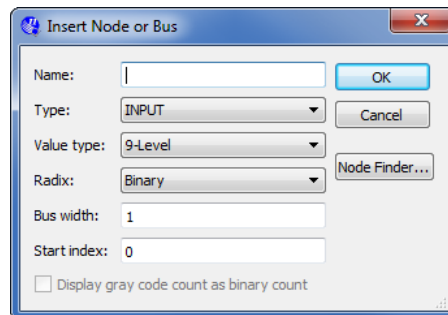
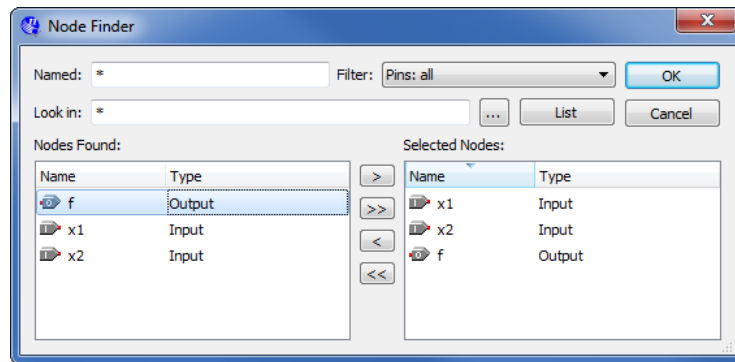
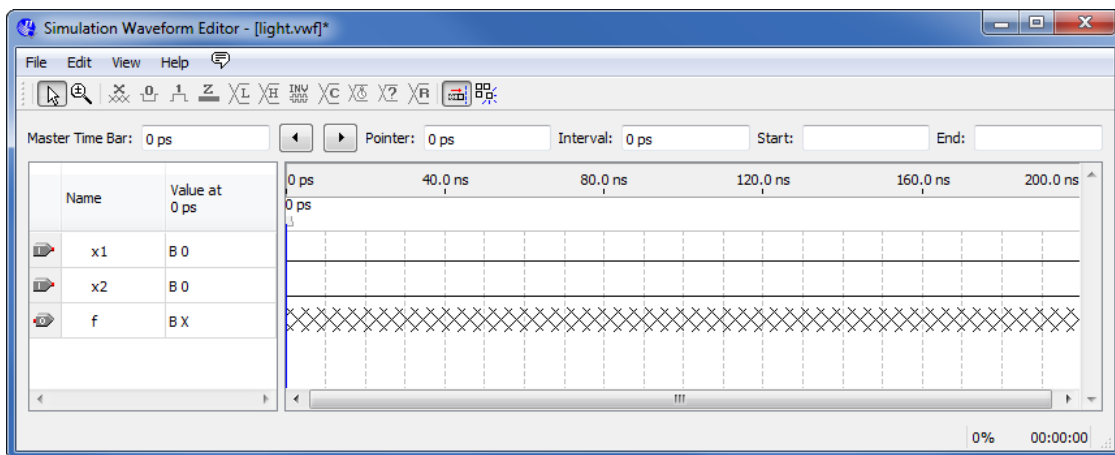

Figure 31. The Insert Node or Bus dialogue.
Figure 32. Selecting nodes to insert into the Waveform Editor.
Figure 33. The nodes needed for simulation.
6. Next, we want to include the input and output nodes of the circuit to be simulated. Click **Edit > Insert > Insert Node or Bus** to open the window in Figure 31. It is possible to type the name of a signal (pin) into the Name box, or use the Node Finder to search your project for the signals. Click on the button labeled **Node Finder** to open the window in Figure 32. The Node Finder utility has a filter used to indicate what type of nodes are to be found. Since we are interested in input and output pins, set the filter to **Pins: all**. Click the **List** button to find the input and output nodes as indicated on the left side of the figure.
Click on the *x1* signal in the Nodes Found box in Figure 32, and then click the > sign to add it to the Selected Nodes box on the right side of the figure. Do the same for *x2* and *f*. Click OK to close the Node Finder window, and then click OK in the window of Figure 31. This leaves a fully displayed Waveform Editor window, as shown in Figure 33. If you did not select the nodes in the same order as displayed in Figure 33, it is possible to rearrange them. To move a waveform up or down in the Waveform Editor window, click within the node's row (i.e. on its name, icon, or value) and release the mouse button. The waveform is now highlighted to show the selection. Click again on the waveform and drag it up or down in the Waveform Editor.